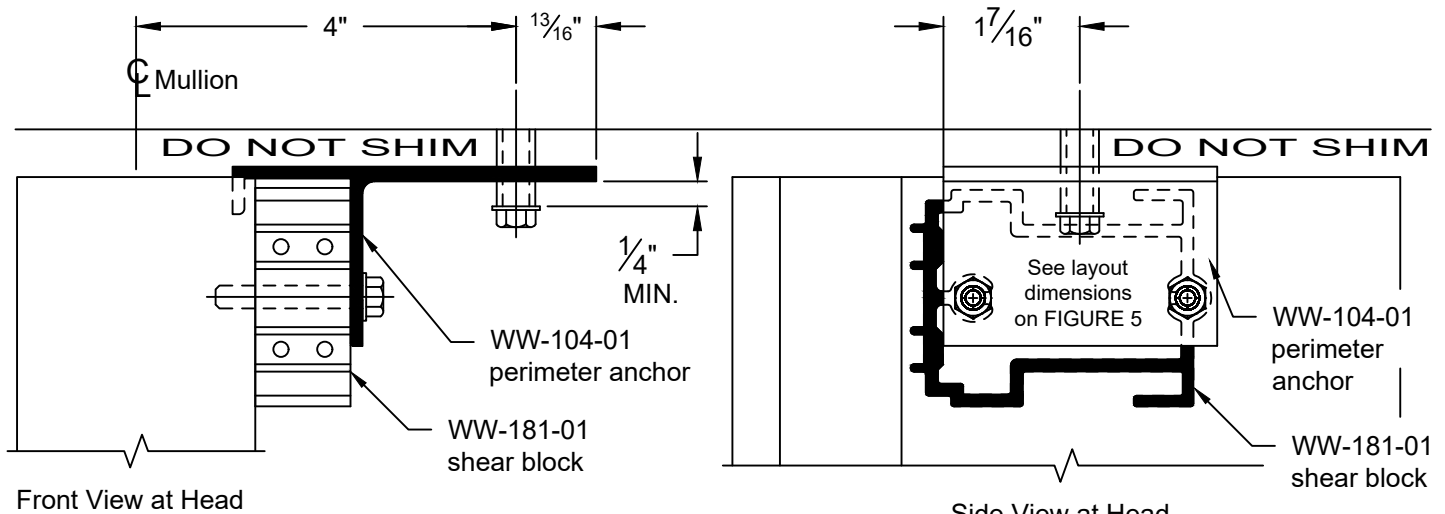

FIGURE 7
2.1.2 Install verticals plumb and level. Place shims under vertical mullion and anchor at sill to evenly distribute deadload from wall. Install pipe sleeve anchor at head to allow for thermal movement of the vertical mullions. **SEE FIGURE 7, page 13.**